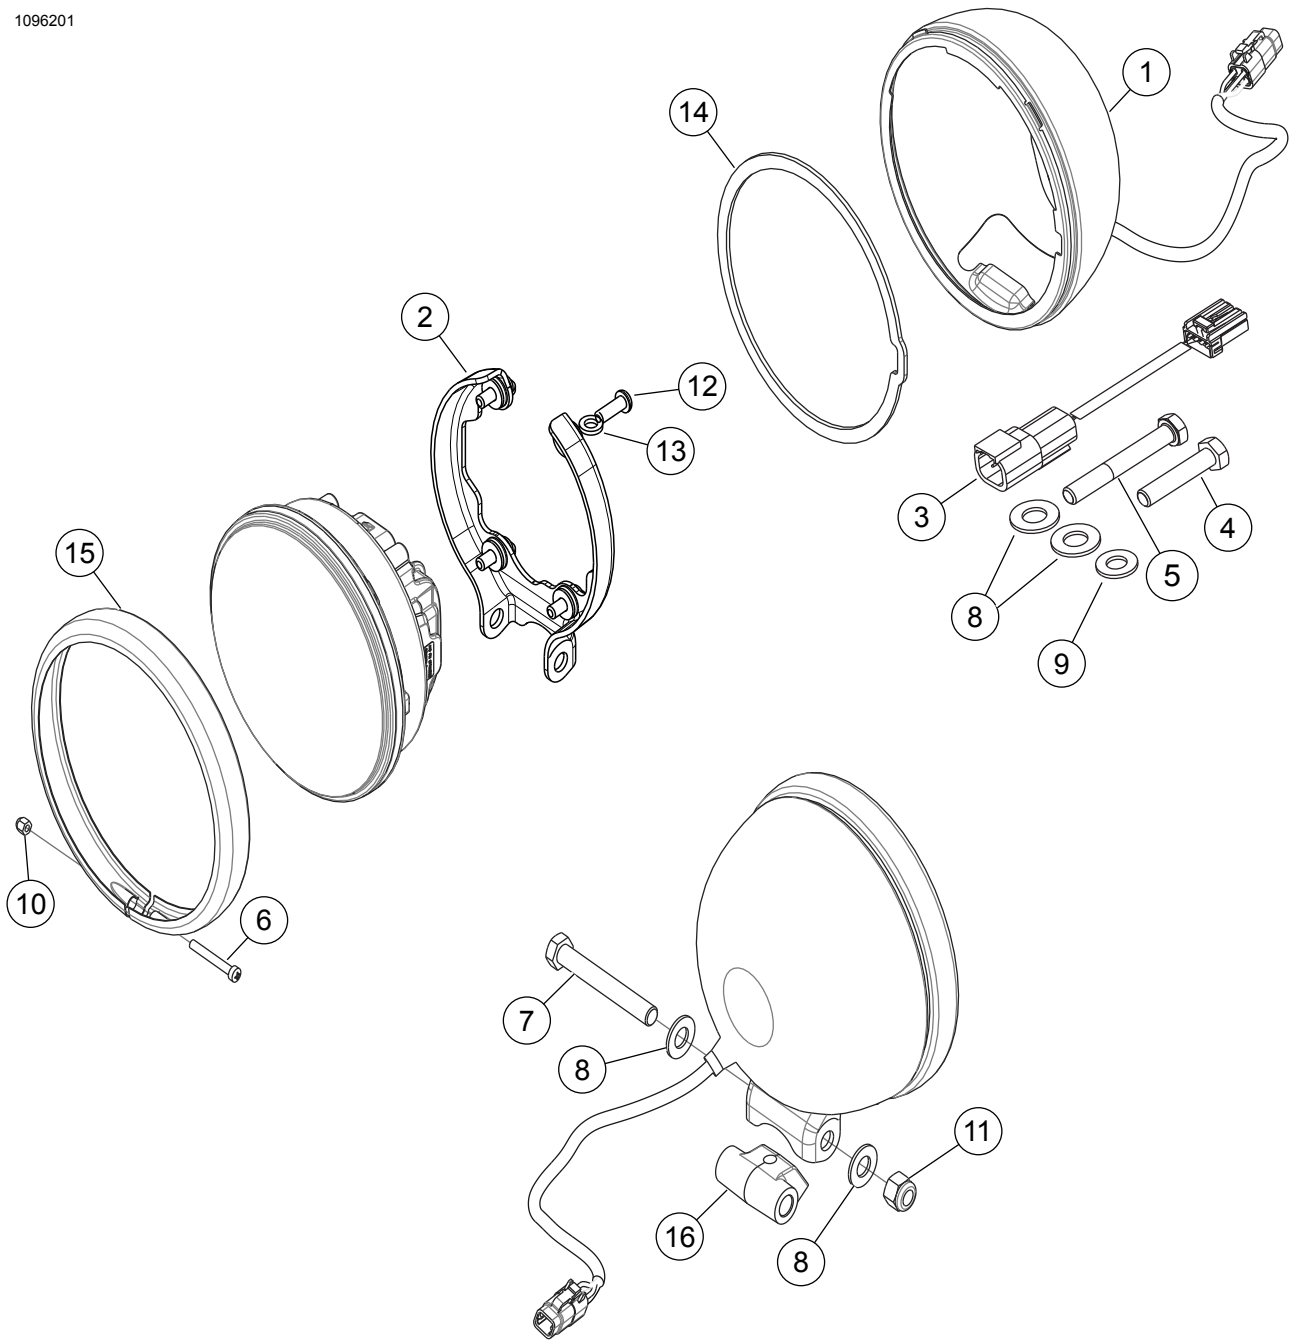

Figure 3. Service Parts: Headlamp Shell
See Figure 3 and Table 1.
3. See See Figure 3. Assemble headlamp spacer (14) to headlamp bucket (1).
5. Assembly headlamp (A or B) and bracket isolator (2) through spacer (14) and into bucket assembly (1).
6. Assembly bucket bezel (15) with screw (6) and hex nut (10) to tighten bezel ring to clamp headlamp into bucket assembly (1). Tighten.